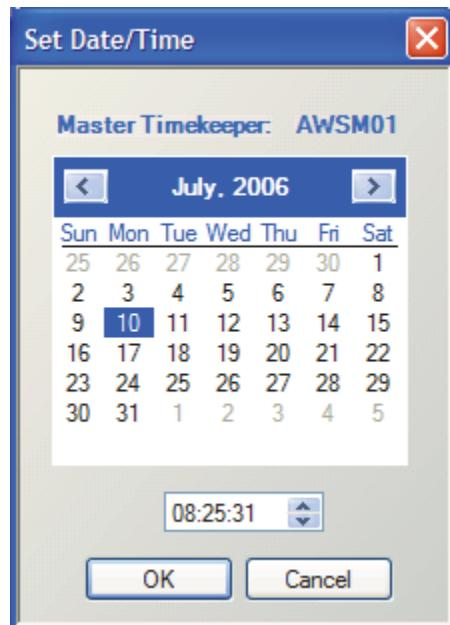

Figure 2-35. Set Date/Time Dialog Box
1. Choose **Actions > Set Date and Time**, or click  in the toolbar, to open a dialog box for setting the date and time (Figure 2-35).